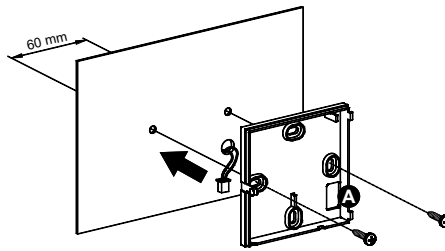

Fig. 5
**3** Find the best location for the installation (see section 'RADIO SYSTEM CONFIGURATION'), then secure the thermostat base to the wall using the two screw holes with a 60mm. distance (use the screws and/or bolts supplied) after having passed the remote sensor wires (if present) through the rectangular opening (A in Fig. 5).